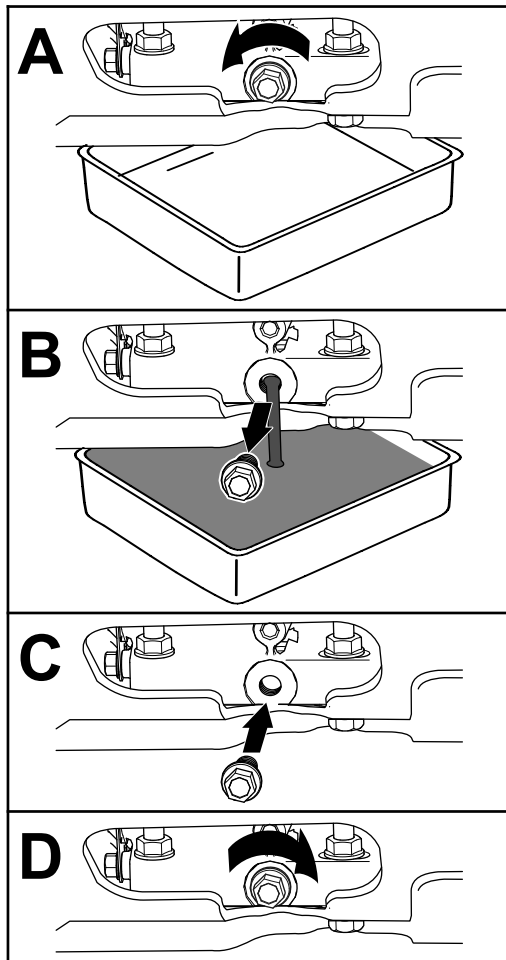

Figure 36
3. Change the engine oil as shown in Figure 36.